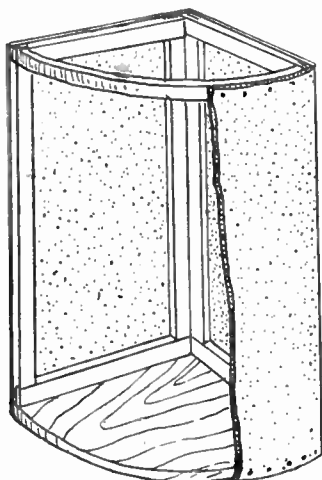

Fig. 2 - Constructional details
Details of the sides and bottom are given in Fig. 1 and diagram. Fig. 2 shows the general build up of the article. First make up a couple of light wood frames to dimensions given in Fig 1 (A). These are constructed from $\frac{1}{2}$ in. by 1 in. wood strips and joined together at the corners with the simple halved joint, shown at (C), which every reader is well acquainted with, we think.
The sides and curved front of the basket are covered with cardboard, as in the constructional detail in Fig. 2. You can, of course, buy a sheet or two of cardboard for this part of the work, or if you feel like being economical, use the cardboard from grocers' containers,
The board for this (shown in Fig. 2) can be $\frac{1}{2}$ in. thick or made from panel board with a 1 in. square edge, rounded at the corners. Use panel fine pins for fixing. The top could be linoleum covered to save damage from water, and if possible fix it at window level. It can, space permitting, extend out about 3 ins. from the wall or alcove.